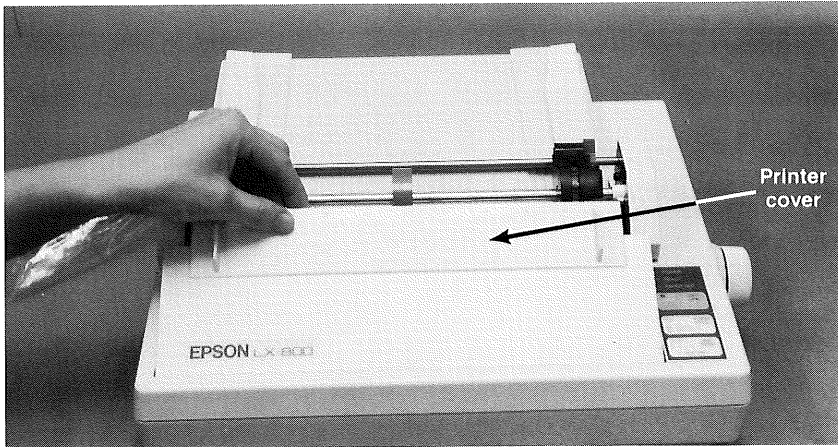

Figure 15.
24. Remove the printer cover by lifting up on the back edge. See Figure 15.